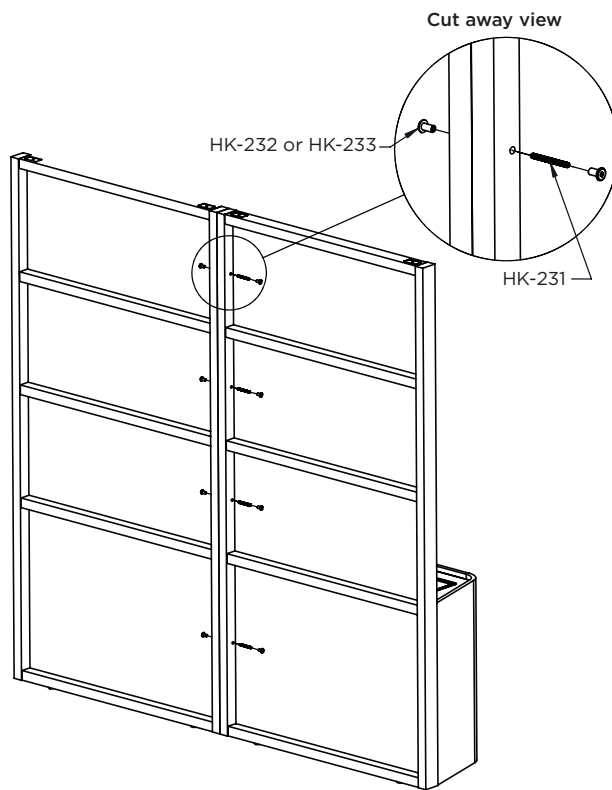

Figure 4D
- For 90"h to 90"h planters, locate ganging hardware studs (HK-231) and connector nuts (HK-232 or HK-233, color dependent). Identify the correct stud length from the table below, the length will vary depending on the infill type. Using two  $\frac{5}{32}$  hex keys, bolt the two connector nuts and stud through the frame. For 90"h to 90"h planters, there are four connector bolt joints per side. Ensure both cases remain level and aligned when tightened. (**Figure 4D**)